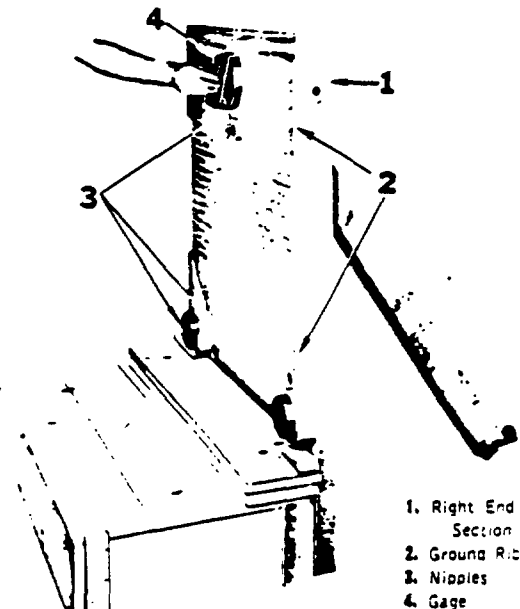

FIG. 1—Gaging Nipple
2. Drive nipples squarely into end section using block of wood and hammer. Gage nipples in both directions to insure that they are driven squarely and to proper depth in nipple openings; nipple setting gage is provided for this purpose. Cutout in gage should rest on both sides of nipple when legs of gage are touching finished pads on section. Most nipple leaks are caused by tilted or cocked nipples. See Fig 1.
Arrange for suitable blocking under center section. Paint ground and rib of each section with red lead and continue assembling center sections ONE AT A TIME. Shift blocking each time so that support is under the last section assembled. See Figs. 1 and 2.